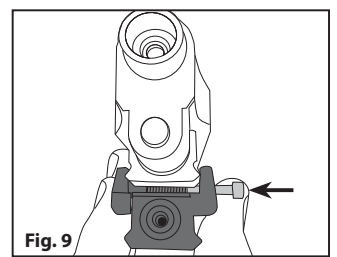

Fig. 9
- Remove the clamping screw with Allens wrench provided (Fig. 9).